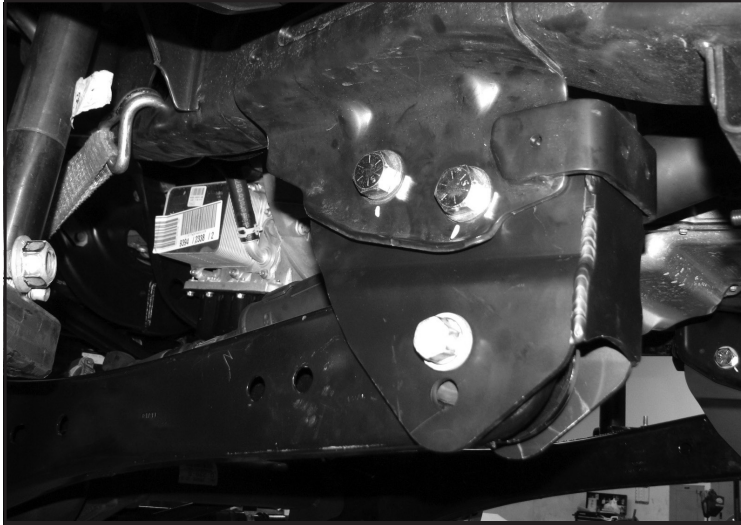

FIGURE 15 - STEP 20
20. Reinstall the radius arm into the new drop down bracket using the factory hardware. Attach to the axle first then to the new drop bracket using the upper most hole. Torque to 200 ft-lbs. **SEE FIGURE 15**